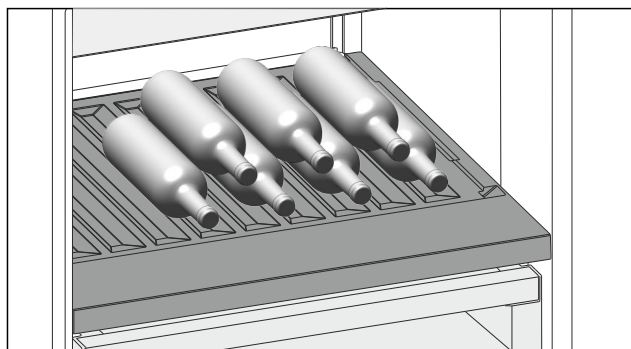

Fig. 126 Example illustration
- Insert the bottles facing backwards towards the rear wall. (see Fig. 126)